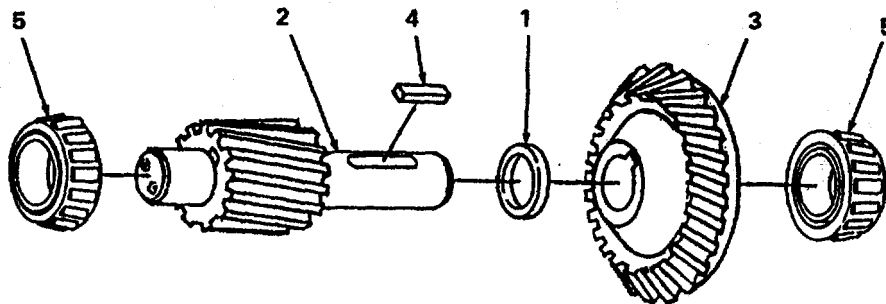

Figure 6-17. Installation of Bevel Gear on Intermediate Shaft.
(e) Install spacer (1, figure 6-17) on intermediate shaft (2).